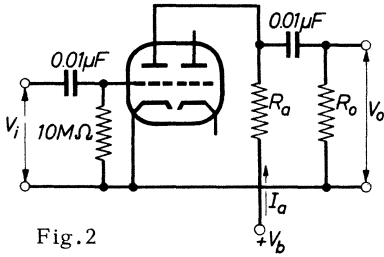

Fig. 2
A. F. amplifier Fig. 2 see page 9 Input source resistance = 100  $\Omega$